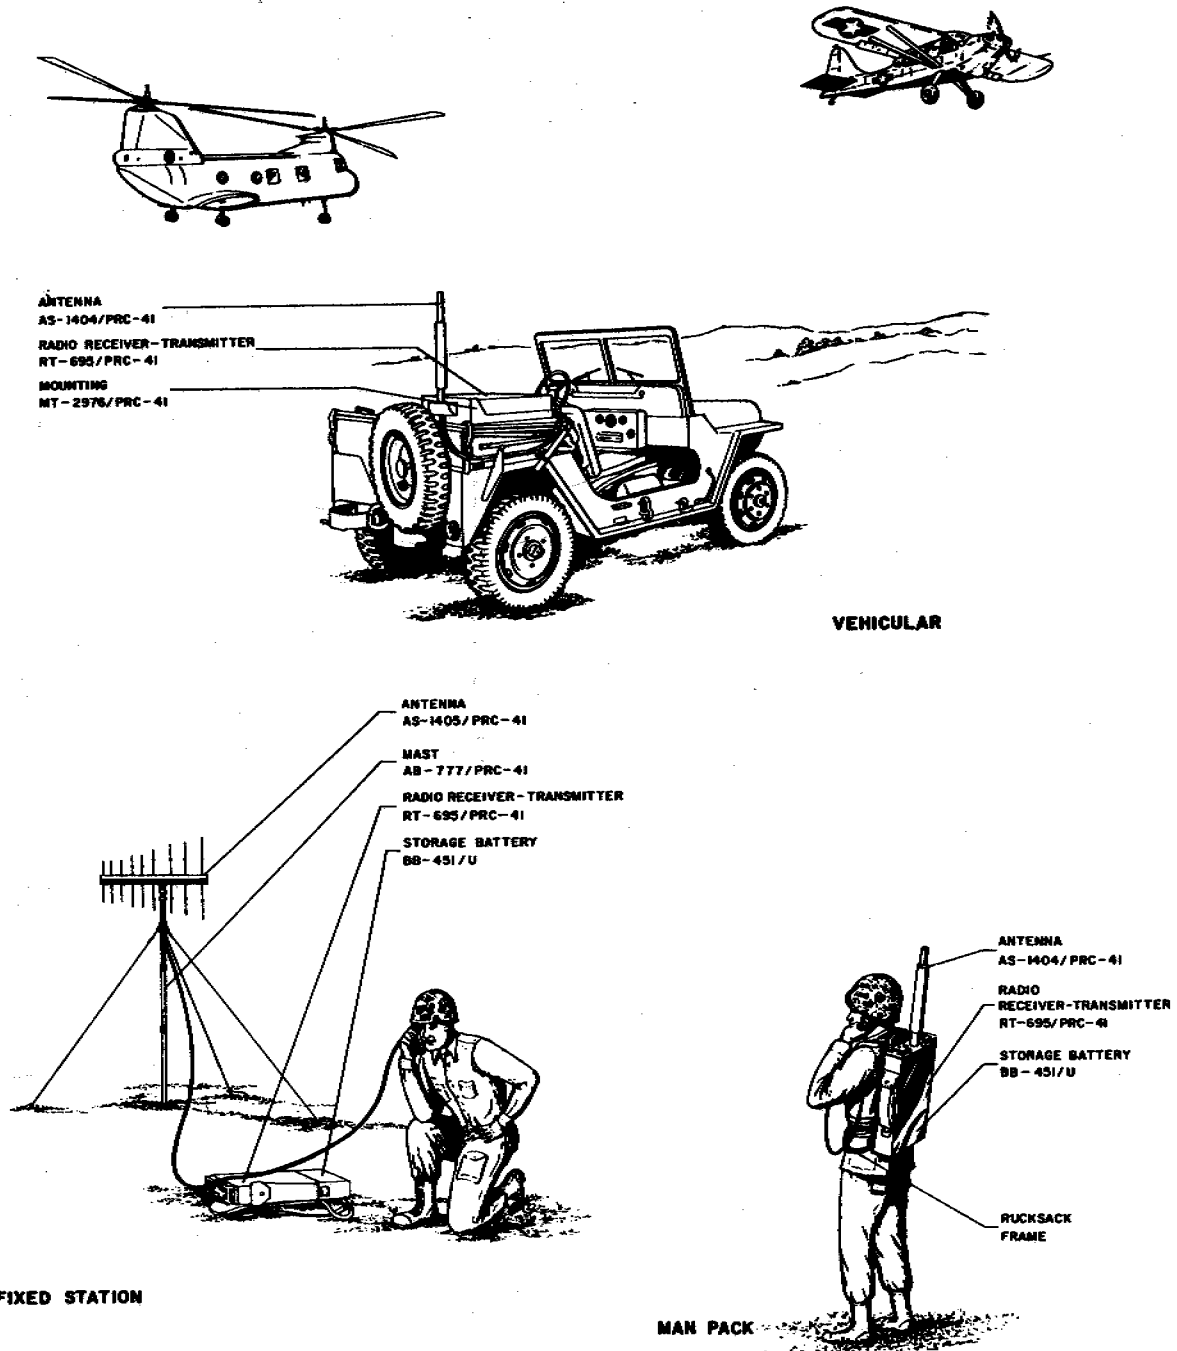
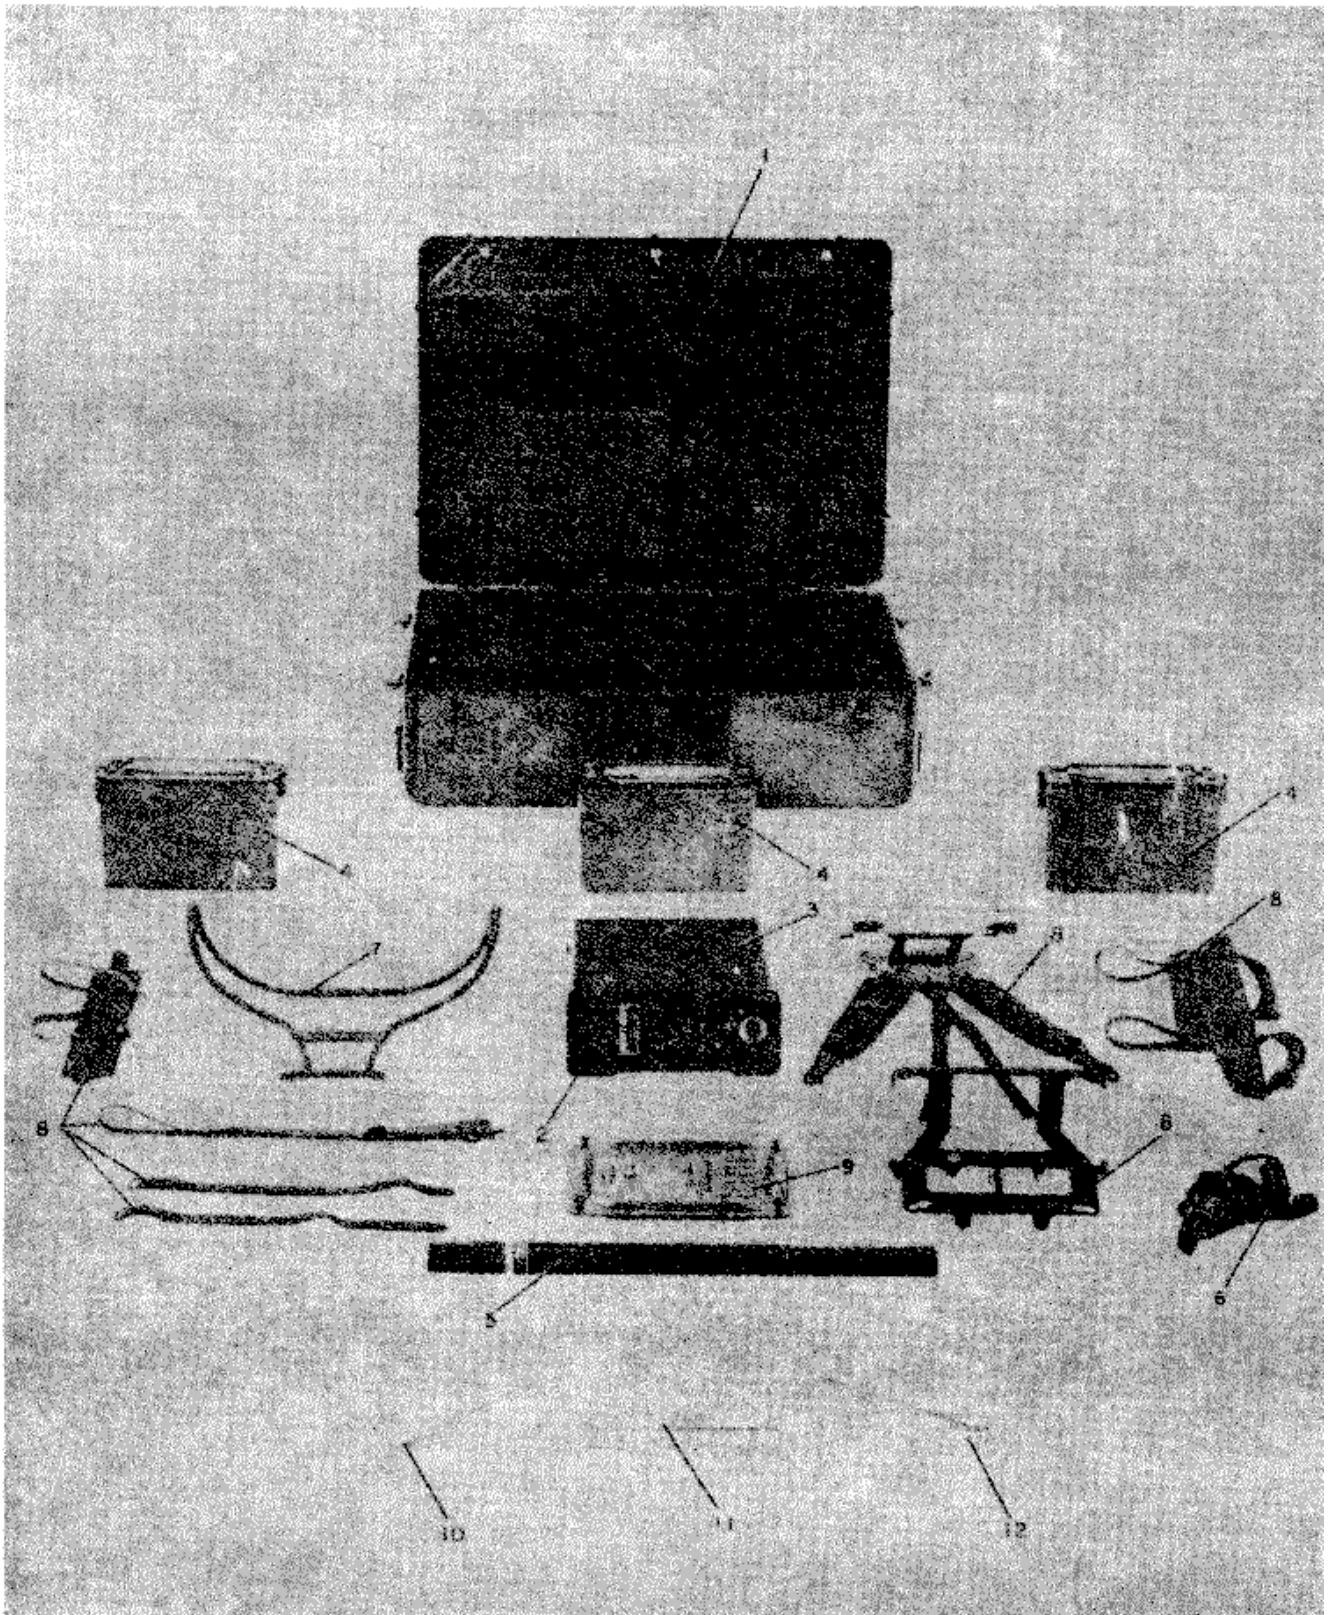
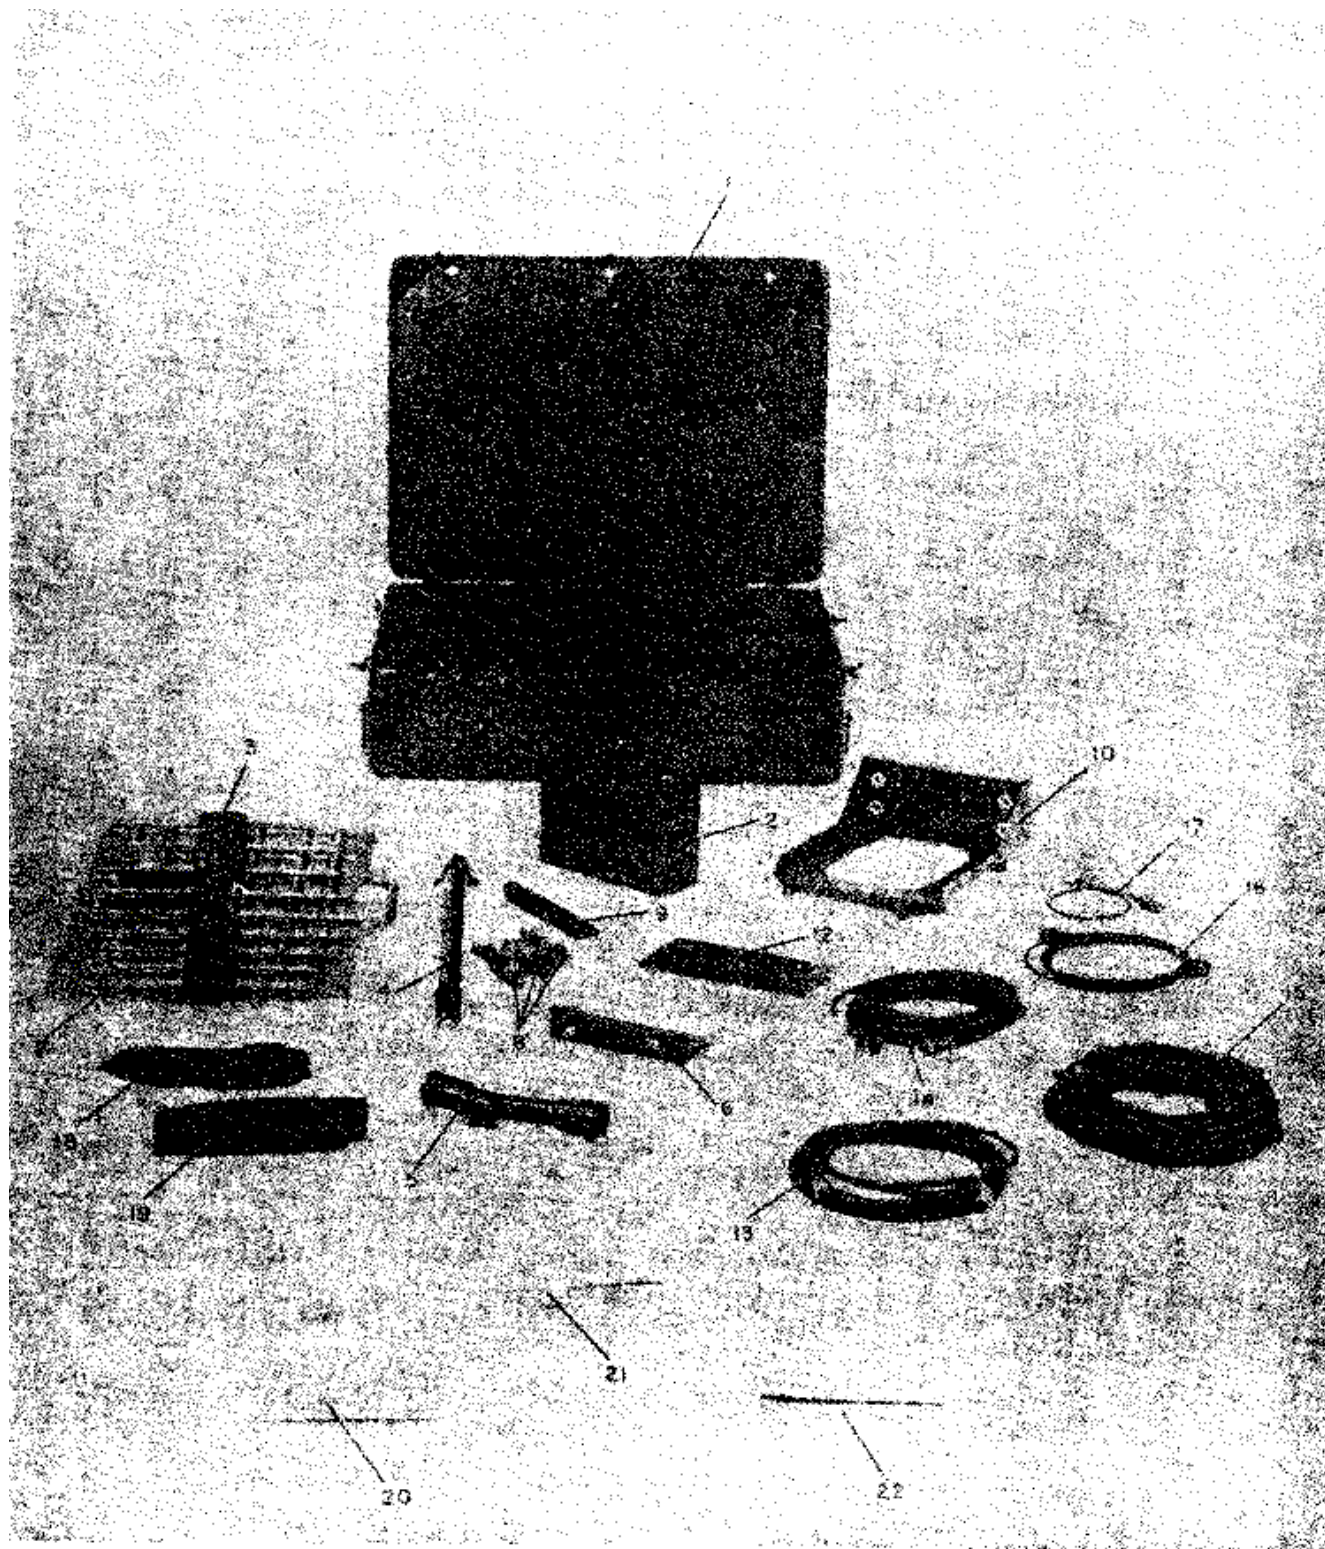

Figure 1-1. Radio Set AN/PRC-41, Operating Configurations
Figure 1-2. Radio Set AN/PRC-41, Equipment Contents of Radio Set Case CY-3883/PRC-41
Figure 1-3. Radio Set Accessory Kit MK-706/PRC-41, Accessory Contents of Electronic
Radio Set AN/PRC-41 consists of the equipment contained in Radio Set Case CY-3883/PRC-41. Refer to table 1-1 and figure 1-2. Radio Set Accessory Kit MK-706/PRC-41 consists of the equipment contained in Electronic Equipment Case CY-3885/PRC-41. Refer to table 1-2 and figure 1-3. Refer also to figure 1-1.
Radio Set AN/PRC-41 is a lightweight, portable uhf receiver-transmitter equipment. The versatility of this equipment permits man-pack, fixed station, or vehicular operation. Refer to figure 1-1. The items and accessories of Radio Set AN/PRC-41 are listed in table 1-1. This equipment is stored for transit in Radio Set Case CY-3883/PRC-41 and Electronic Equipment Case CY-3885/PRC-41. Refer to figures 1-2 and 1-3. Radio Set Case CY-3883/PRC-41 contains the items necessary for man-pack operation. Electronic Equipment Case CY-3885/PRC-41 contains the accessory items required for fixed station or vehicular operation, and maintenance items such as tools and extender cables. Radio Receiver-Transmitter RT-695/PRC-41 of Radio Set AN/PRC-41 may be operated on any one of 1750 channels, spaced 100 kc in the 225.0- to 399.9-mc range. In transmit operation, the equipment uses type A3 (AM voice) emission and provides an average of 3 watts across the frequency range. All controls are an integral part of the front panel of Radio Receiver-Transmitter RT-695/PRC-41. These controls provide frequency selection, application of power, and adjustment of volume and squelch levels. Automatic relay operation may be provided when two Radio Receiver-Transmitter RT-695/PRC-41 equipments are operated together. Cabling is provided to permit remote operation. Primary power may be provided by either Storage Battery BB-451/U or Power Supply PP-3700/PRC-41. The equipment may use directional Antenna AS-1405/PRC-41 or omnidirectional Antenna AS-1404/PRC-41.
a. GENERAL. - Radio Set AN/PRC-41 is considered to include Radio Set Case CY-3883/PRC-41 and its contents. Refer to figure 1-2. Radio Set Accessory Kit MK-706/PRC-41 is considered to include Electronic Equipment Case CY-3885/PRC-41 and its contents. Refer to figure 1-3. The following paragraphs of this subsection provide physical, electrical, and functional descriptions of Radio Set Case CY-3883/PRC-41, Electronic Equipment Case CY-3885/PRC-41, and their contents.
(1) RADIO SET CASE CY-3883/PRC-41. Radio Set Case CY-3883/PRC-41 is a compartmentalized aluminum transit case used for storage of the items of Radio Set AN/PRC-41 which are required for man-pack operation. It measures 15-1/2 by 35 by 26-1/2 inches and weighs 45 pounds. Refer to figure 1-2.
equipment maintenance. The case measures 15-1/2 by 35 by 26- 1/2 inches and weighs 45 pounds. Refer to figure 1-3.